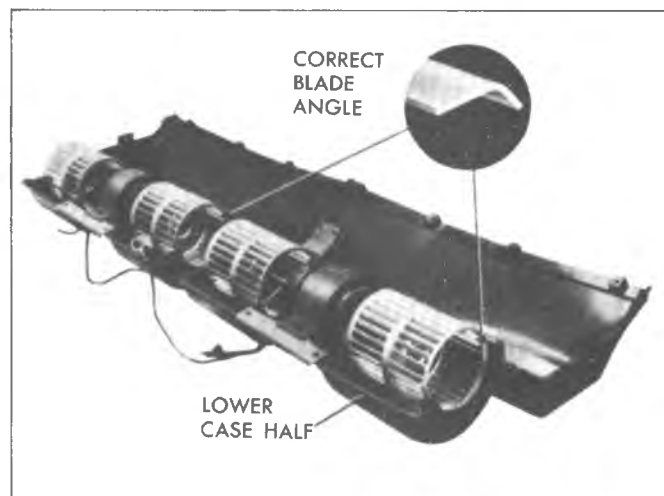

Fig. 89--Blower Motors (G Overhead System)
#### Removal (Fig. 89)
**CAUTION:** Be sure that the blower wheels are installed as shown in Figure 89.